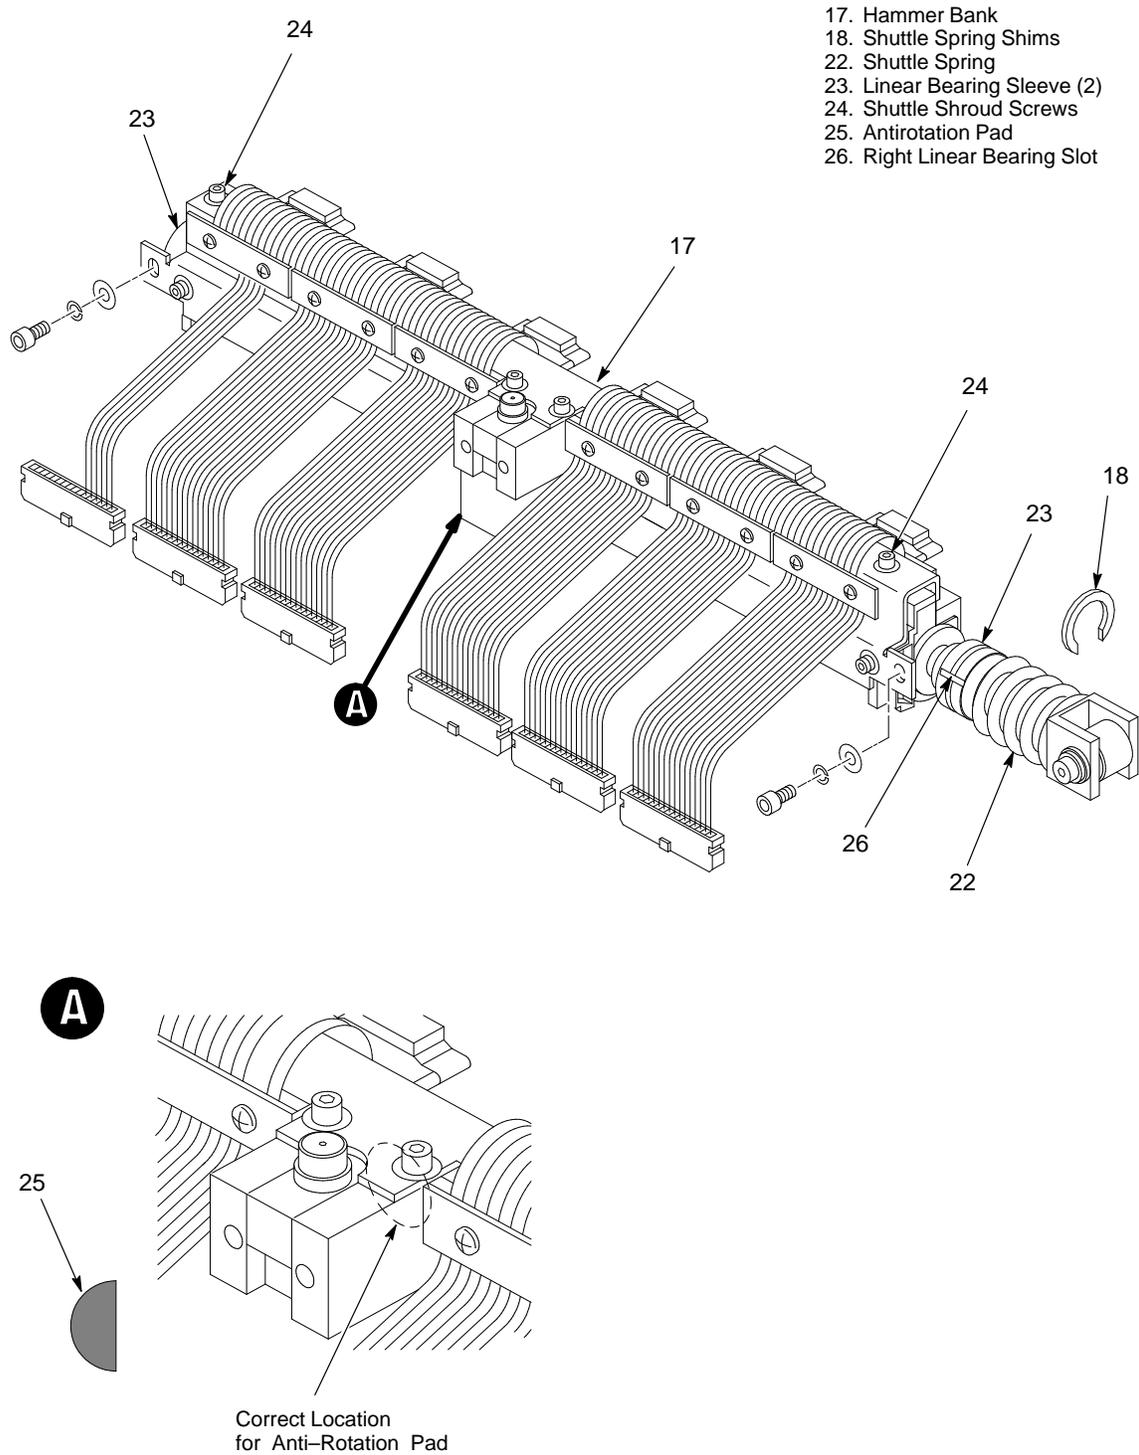

Figure 6-3. Replacement Hammer Bank
The antirotation pad (Figure 6-3, item 25) must be kept in place inside the shuttle shroud (Figure 6-3A) to ensure good print quality. Hold the hammer bank unit carefully to avoid dislodging the antirotation pad, as follows:
2. Remove the replacement hammer bank unit (17) from its box: (See Figure 6-3.)
- a. When picking up the hammer bank unit, keep the shuttle shroud, hammer bank cables, and antirotation pad (25) in place by firmly gripping the right and left shuttle shroud screws (24) with your thumbs. Do not let the hammer bank cables catch on any exposed edges of the printer.
- b. Note the U-shaped shims (18) installed at the end of the shuttle spring (22). These were installed at the factory to set the correct spring pre-load. Make sure that these shims stay in place while transferring the hammer bank into the casting.
- c. Be careful not to let the left linear bearing (23) slip off the shaft.